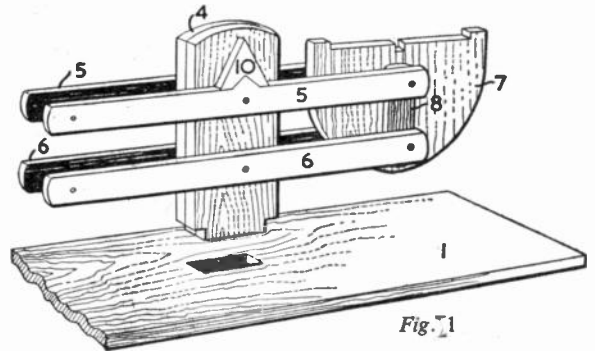

Fig. 1
pieces measuring 11 ins. by 2½ ins. Glue these together as shown in Fig. 1, but do not put the top (11) in position yet.